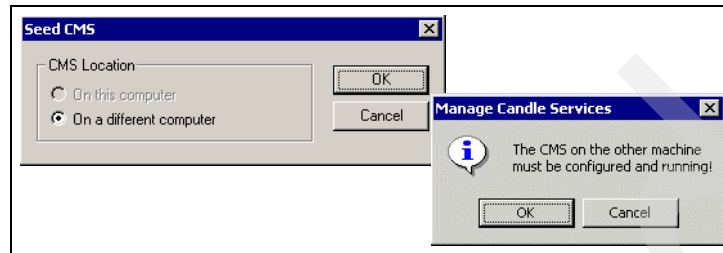

Figure 3-48 Seeding the Tivoli Enterprise Monitoring Server
- On the Seed CMS window, select **On a different computer** and click **OK** (see Figure 3-48). Click **OK** again when you are prompted to confirm that the Candle Management Server is configured and running.